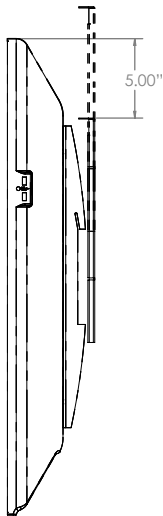

Figure 22 - Adjusting height
3. Place one i-Series bracket against wall with round flange facing up and position to your preference. This flange should be no lower than 5" below the line indicating the top of the display (*figure 22*).